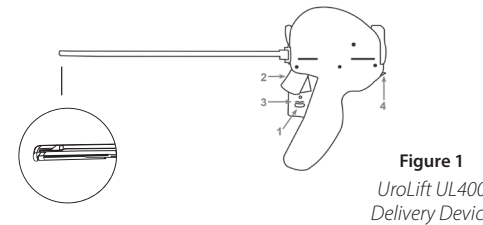
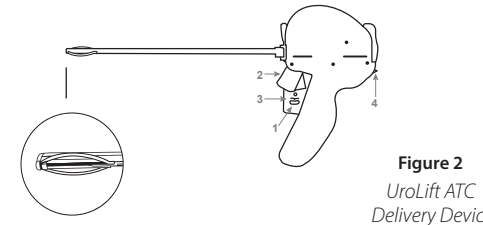

Figure 1
Figure 2
- UroLift UL400 Delivery Device (**Figure 1**)
- UroLift ATC Delivery Device (**Figure 2**)
Each Delivery Device (**Figure 1** and **Figure 2**) is designed to access the prostatic urethra and deliver one implant through the lobes of the prostate. The ATC Delivery Device has an enhanced tip design to mobilize challenging lateral and median lobe tissue.